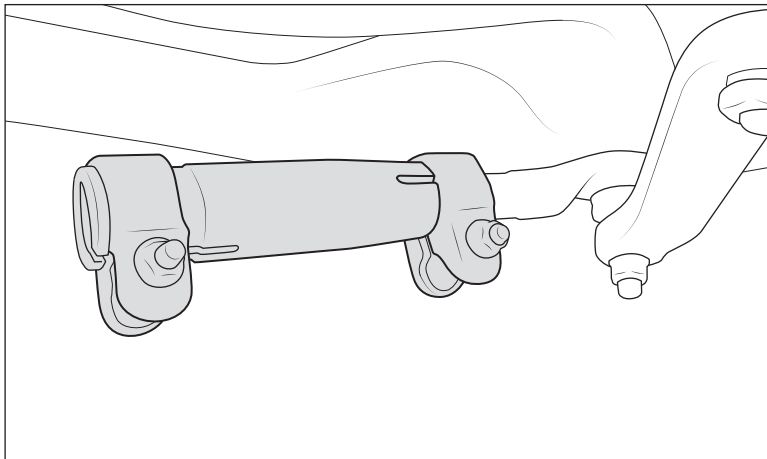

Figure 33
- a. Thread the new adjuster 6 turns (approx, 3/8”) onto the pitman arm tie rod end before starting threads on draglink (fig. 33)